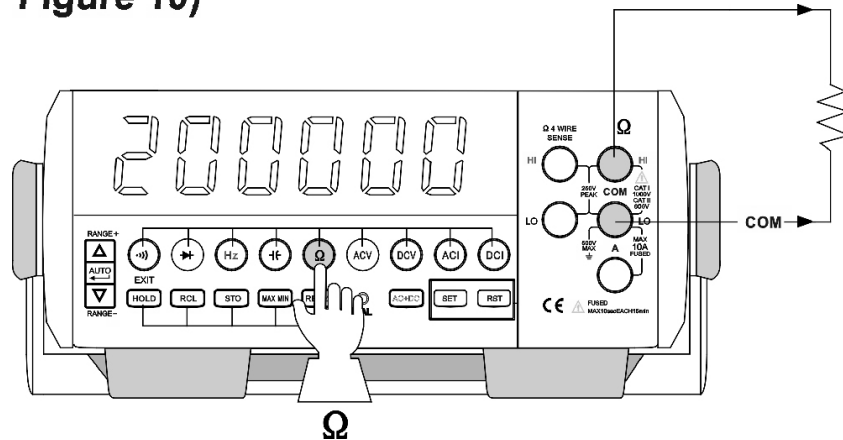
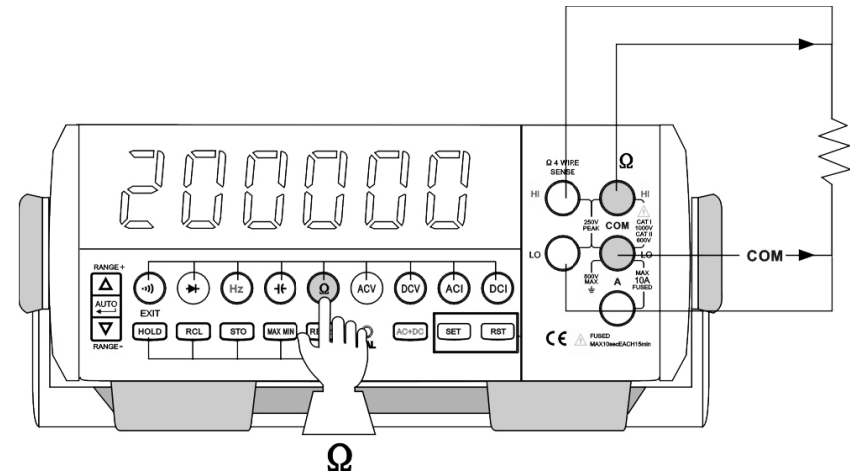

Figure 9
Figure 10
### 4. Resistance measurement (See Figure 9 and Figure 10)
1) The Figure 9 shows the Two-end resistance measuring method, with the resistance to be entered from the front panel. At this time, insert the red pen-shape meter into “V Ω Hz → ← Hz → ← V” input port and the black pen-shape meter into “COM” input port;
4) The Figure 10 shows the four-end resistance measuring method. At this time, it should use two pairs of pen-shape